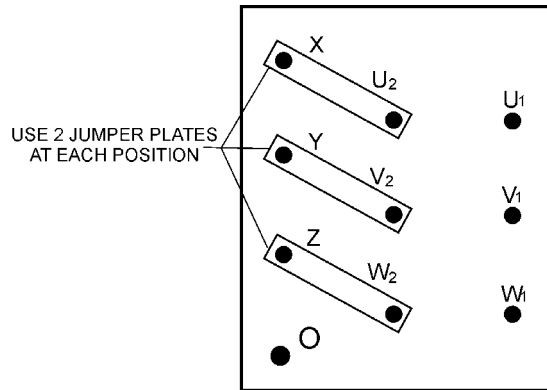

Figure 24. Voltage Change-Over Board 480V Configuration
1. Jumper the voltage change-over board for 480V operation as shown in Figure 24. This configuration uses 6 jumper plates in 3 different positions. Remember there are 2 jumper plates at every position. Every jumper plate **must** be used.
1. Make sure the voltage change-over board is jumpered for 480V operation as shown in Figure 24.